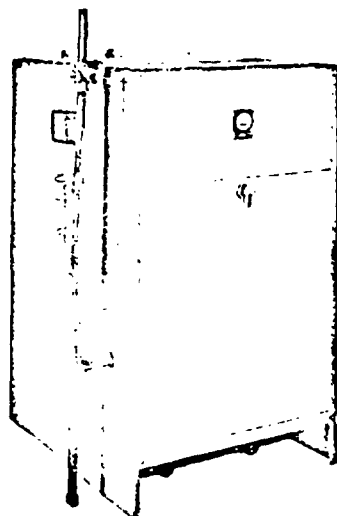
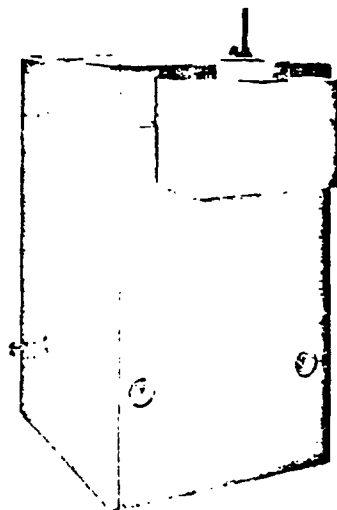

FIG. 15—Front View—Steam Boiler
FIG. 16—Rear View—Steam Boiler
12. Assemble two, back filler pieces to top panel and upper back panel, each with four $\#10 \times 1$ " sheet metal screws. Refer to Fig. 16 for assembly of back jacket pieces and draft hood.
Install steam gauge and water column trimmings in left end section. Install safety valve piping and safety valve in right end section. Fig 15 shows front view of complete steam boiler (6 sections) Fig. 16 shows rear view of complete steam boiler. (6 sections).